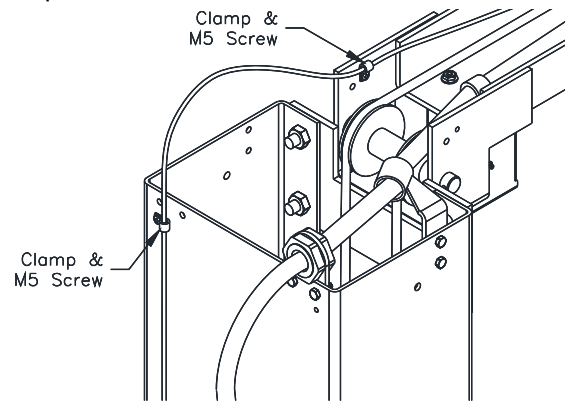

Fig. 10 – Lock Cable Routing
- 32) Secure Lock Release Cable at the top of each column extension as shown in **Fig 10**. Lock Release Cable should be routed on the opposite side of the Overhead Beam as the Idler Hose to prevent interference.